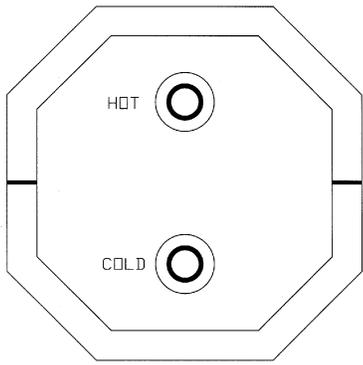

Figure 3
A. Water connections are made at the rear of the water heater. Refer to Figure 3. Connect the hot and cold water lines to the 1/2" female pipe fitting provided on rear of tank. These fittings are marked "HOT" and "COLD". NOTE: Inside each fitting is a plastic fill tube. Its purpose is to enhance water circulation. **DO NOT REMOVE PLASTIC FILL TUBE.**